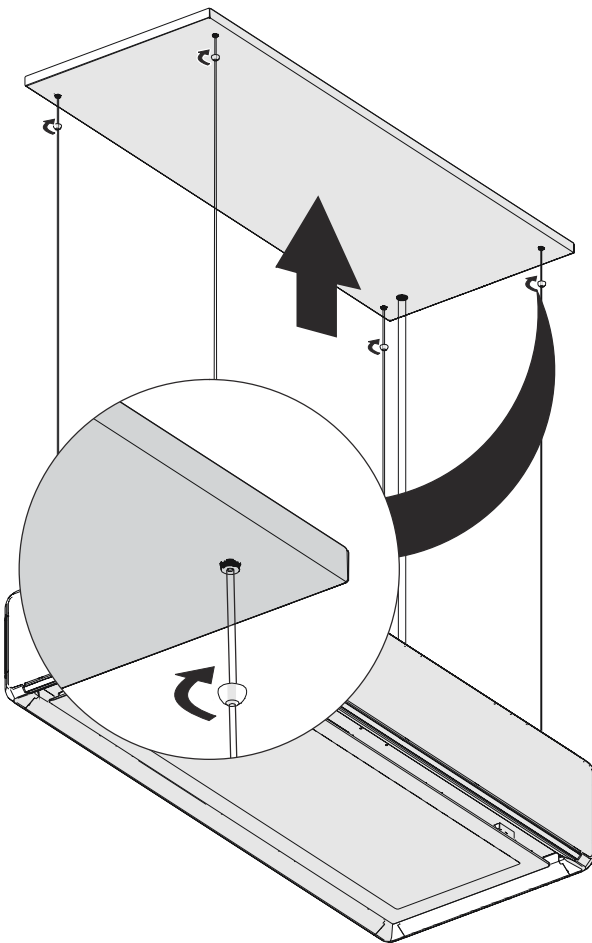

Fig. 28
9.  Push the decorative lid in the correct direction of the arrow. Tighten lock nuts manually (Fig. 28).